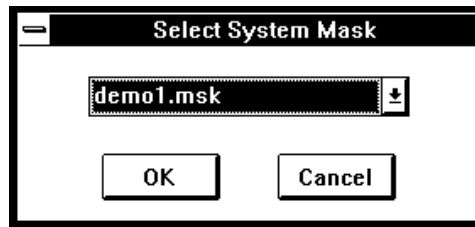

Figure 6-25: Select System Mask Dialog Box
2. Select **Set New System Mask...** to open the **Select System Mask** dialog box (Figure 6-25)